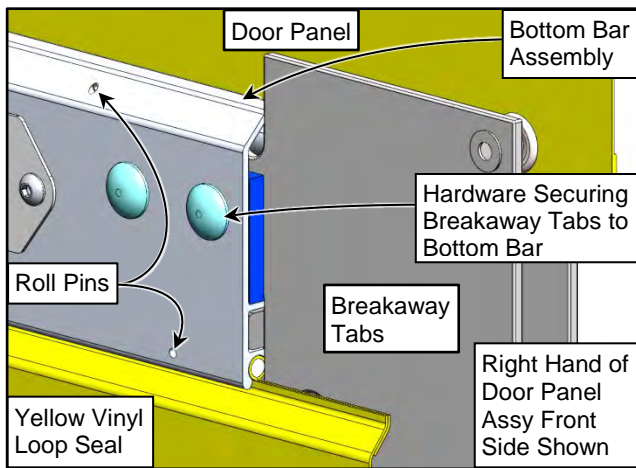

Figure 23
- Inspect the roll pins securing the bottom bar to the door panel & loop seal as shown. It is critical that the hardware is tight to prevent shifting of the fabric in the bottom bar. (See Figure 23)